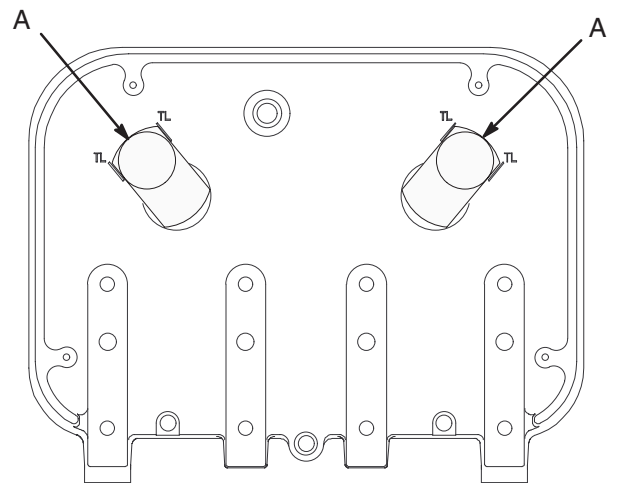

Fig. 8
9. Install new gasket (109) (supplied).
10. Hold the crankshafts (A) between the **TL** timing lines on the drive housing while assembling the drive housing (12) to the pinion housing (11) until the gears are engaged. See Fig. 8.